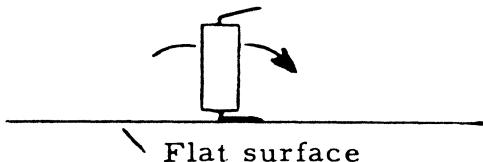

Figure 7 - IC Pin Alignment
- If the IC leads are wider than the IC socket holes making insertion difficult, close the rows of pins slightly until they are aligned with the IC socket holes. Close the row of pins uniformly by placing the IC on it's side on a flat surface, so that one row of pins is flat against the surface (Figure 7).